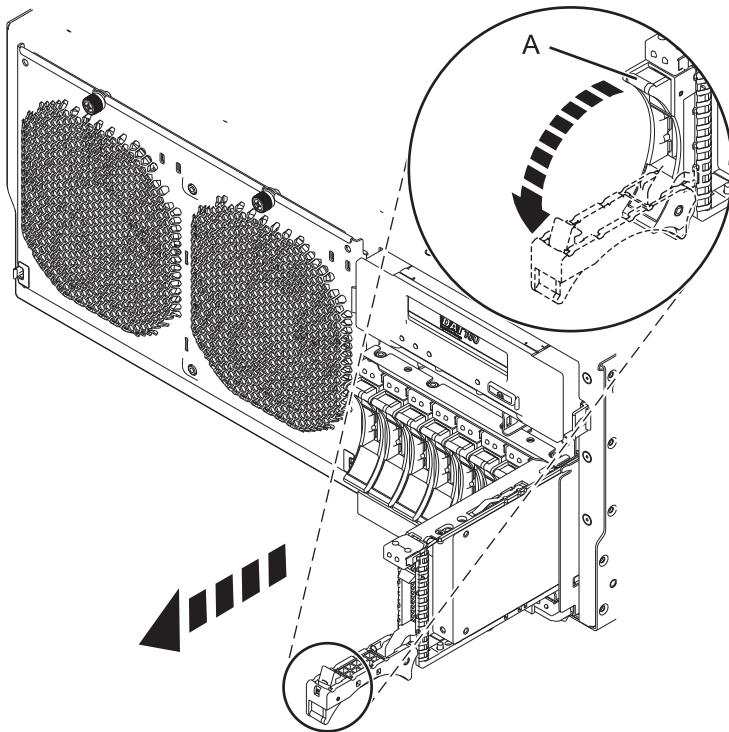

Figure 16. Removing a disk drive from the 8202-E4B, 8202-E4C, 8205-E6B, or 8205-E6C
1. Unlock the disk drive handle by squeezing it and pulling it out toward you, as shown in Figure 16.